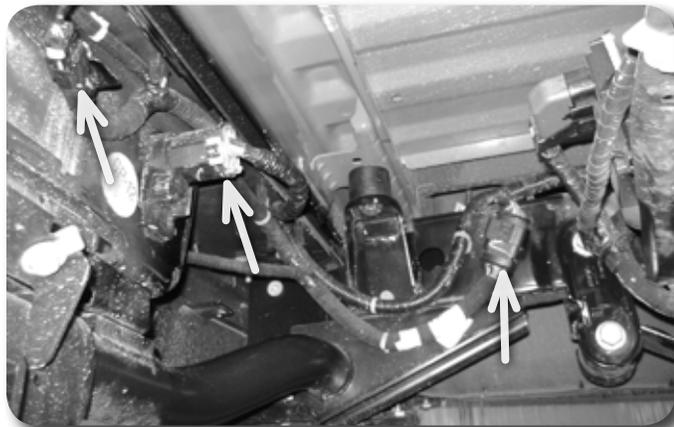

Figure 9
34. Unplug the trailer wire harness and 2 additional plugs that will prevent the bumper from being removed as shown. See Figure 9